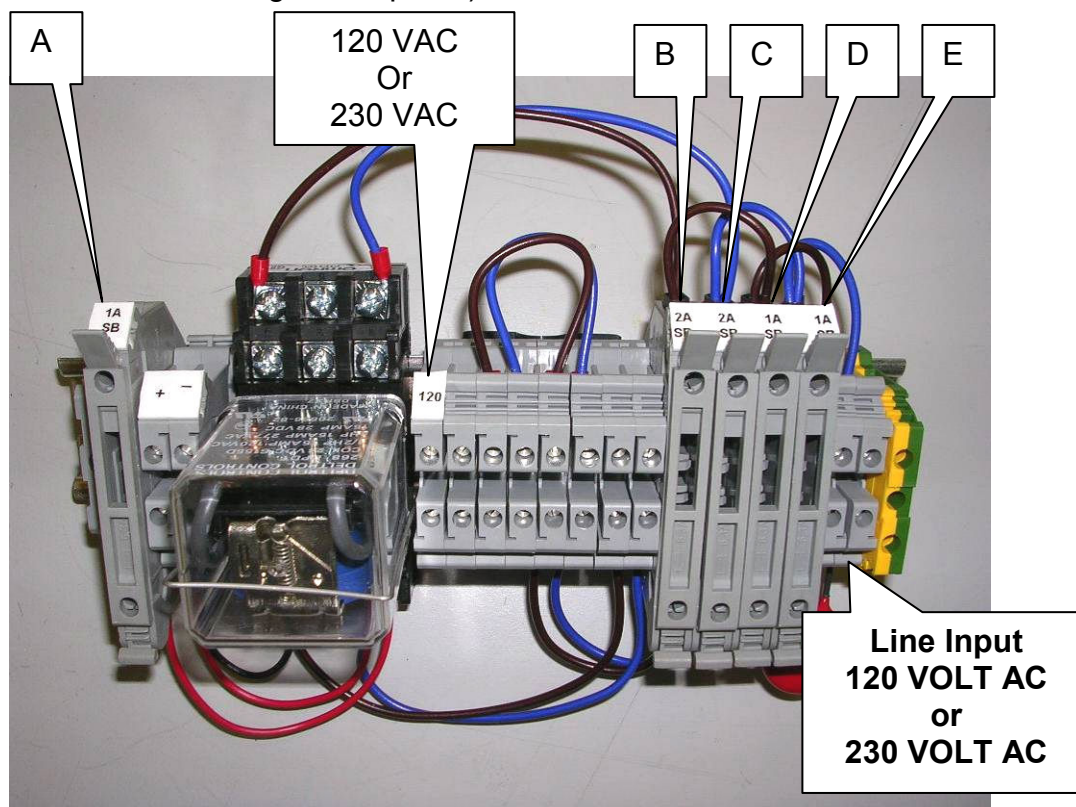

**Figure 21a**
#### External Fuses/Rear of Machine (Refer to **Figure 21a & Table 1**)
**External Fuses (Figure 21a & Table 1) & other connections**